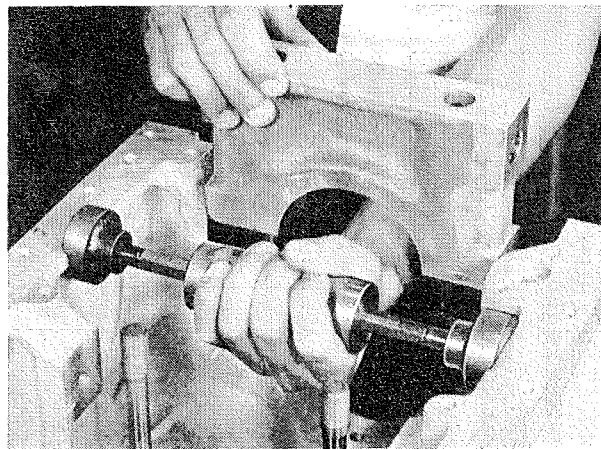

FIG. 22—SPREADING CRANKCASE
a. Use a special hydraulic block spreading tool or a screw jack type tool to spread the block at each main bearing as shown in Fig. 22. Spread the block until the bearing cap can be rocked slightly by hand.